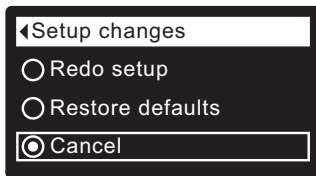

FIG. 39
1. From any of the rolling status screens, press the SELECT (O) button to display the **Main menu**.
3. Press the SELECT (O) button to display the Advanced settings menu.
5. Press the SELECT (O) button to display the Troubleshooting menu.
7. Press the SELECT (O) button to display the Setup changes menu (See Figure 39).
8. Press the RIGHT (▶) button. The flashing padlock icon will disappear, as shown in Figure 39.
9. Press the SELECT (O) button.